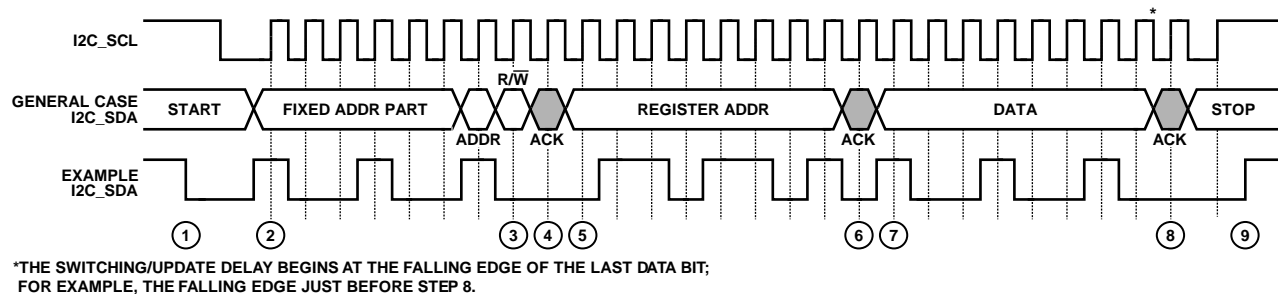

Figure 32. I2C Write Procedure
To write data to the ADV3002 register set, an I2C master (such as a microcontroller) needs to send the appropriate control signals to the ADV3002 slave device. The signals are controlled by the I2C master, unless otherwise specified. For a diagram of the procedure, see Figure 32. The steps for a write procedure are as follows:
3. Send the write indicator bit (0).
- a. Send a stop condition (while holding the I2C\_SCL line high and pulling the I2C\_SDA line high) and release control of the bus to end the transaction (shown in Figure 32).